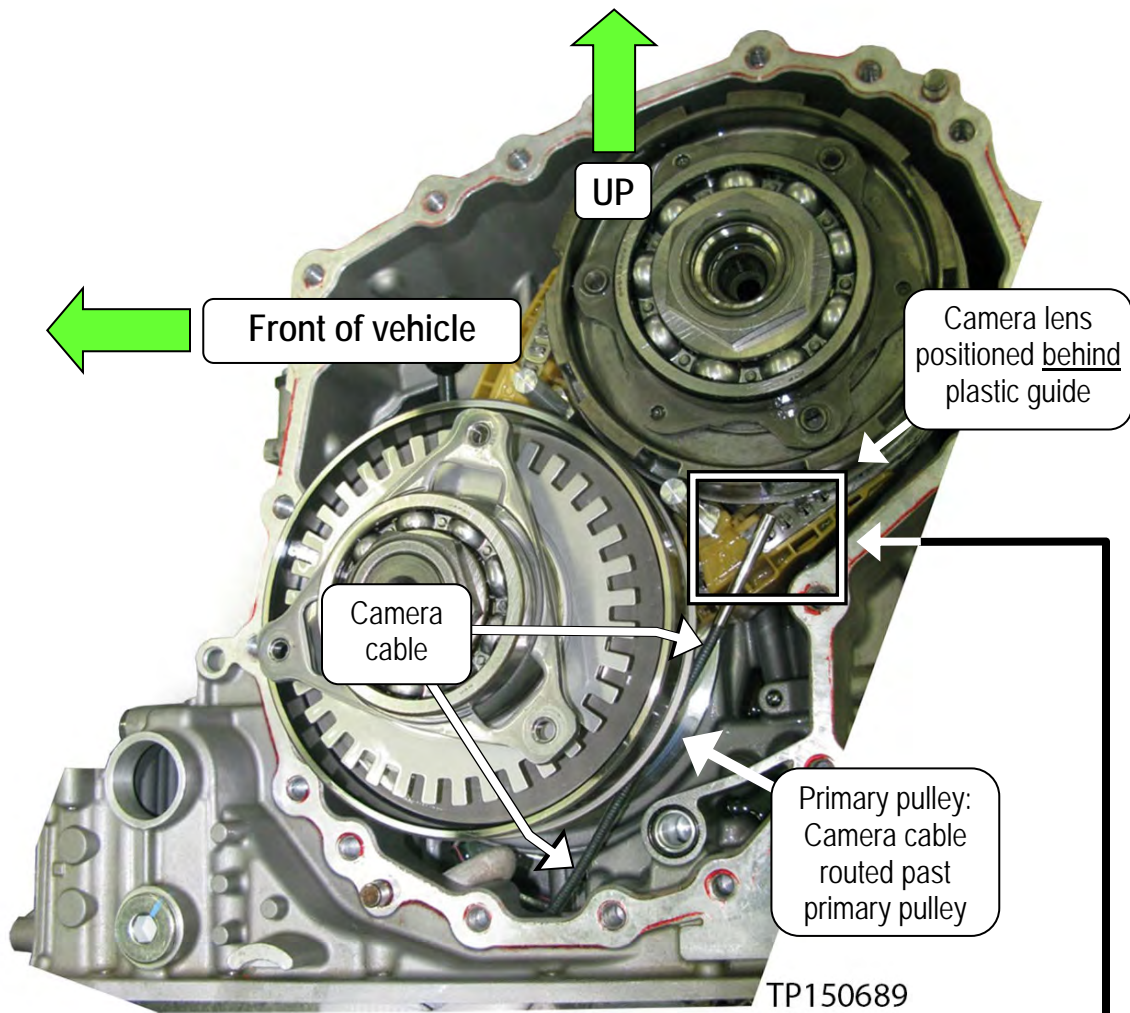

Figure 9
- a. First inspect the entirety (360°) of the driver side of the chain that comes in contact with the pulley (see page 10, Figure 9 and 10, and page 12, Figure 13).
- Figures 9 and 10 show the routing and location of the camera.